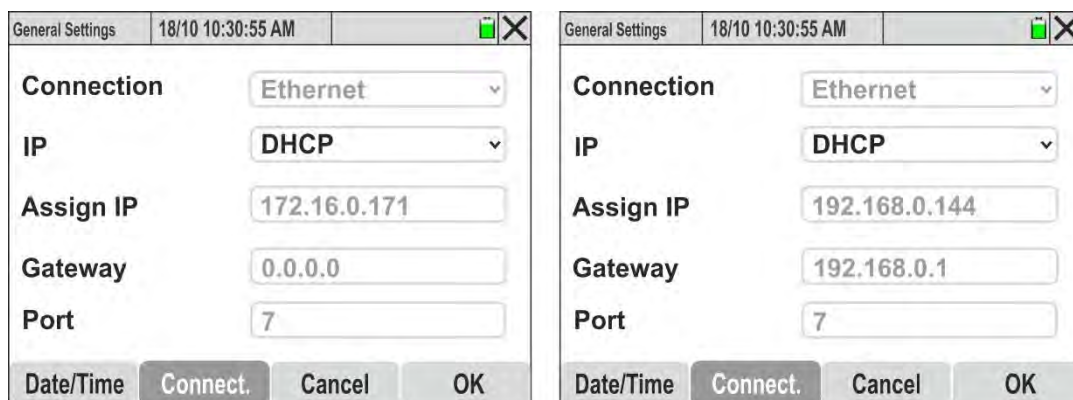

Fig. 14: Setting the Ethernet network communication – DHCP Mode
1. Press the **F2** key or touch **Connect** on the display. The screen of Fig. 14 – left part is shown on the display
4. **Switch the instrument off and on again.** The IP address assigned to the instrument by the network router will be displayed when returning to the connection section (see Fig. 14 – right side)
8. Select the **"Network"** option, enter the IP address of the previously defined device (see Fig. 14 – right side) and press **"OK"** to confirm